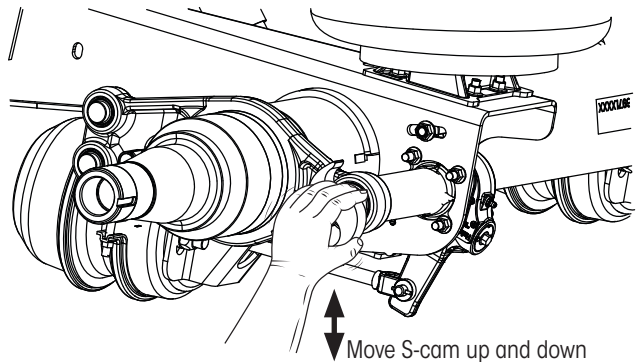

Figure 9: Checking for bushing wear
1. On all models, **check** for radial play between the S-cam and S-cam bushings. Use a dial indicator rigidly secured to the axle or suspension beam to measure the up and down movement of the S-cam (Figure 9).